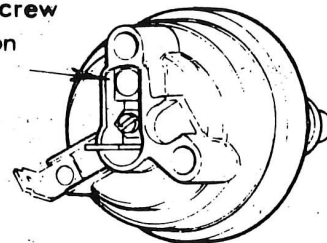

Fig. 4. THERMAL SWITCH
2. Only then, turn the adjusting screw (see Fig. 4 on page 9) anti (counter)-clockwise until the fan cuts 'out', using no undue pressure either in a downwards or sideways direction.